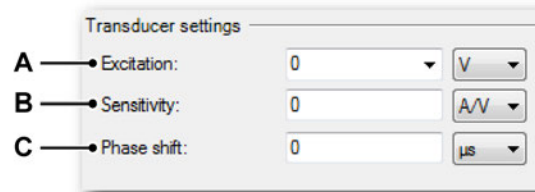

Figure 2.28: Transducer settings/Current Probe (Vout)
- Current Probe (Vout) (see Figure 2.28)
When a Current Probe (Vout) is selected, the following settings are shown (see Figure 2.28).